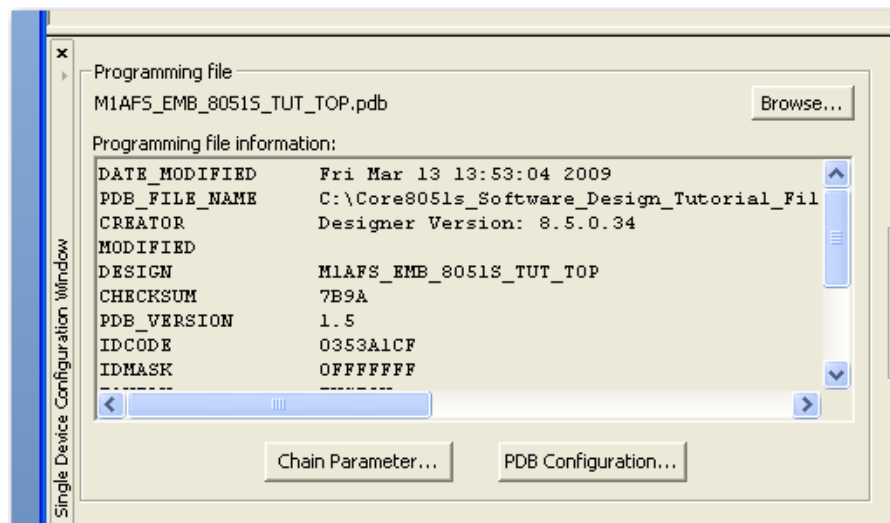

Figure 2-4 · Programming File Box
3. If FlashPro was launched from within Libero IDE, FlashPro received the path to the *.pdb file and will read and display information about the FPGA design in the programming file box (Figure 2-4 on page 20).
FlashPro will read and display information about the FPGA design in the Programming File box (Figure 2-4).
- Click the **PDB Configuration** button in the programming file box (Figure 2-4 on page 20). This will open the Programming File Generator box.